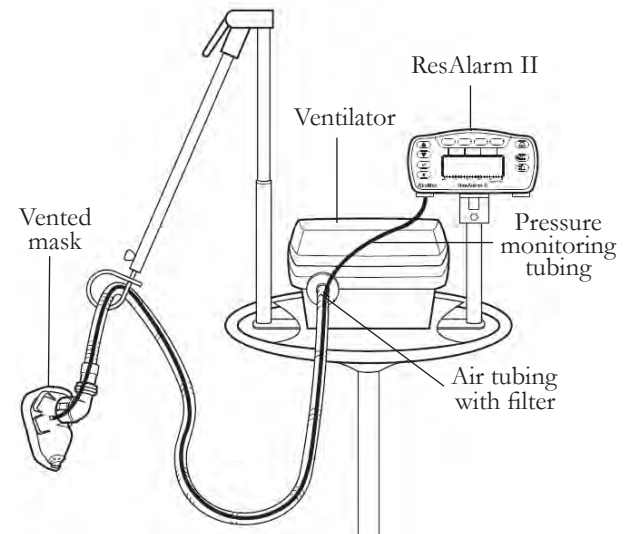

Figure 1: Circuit assembly with VPAP ventilator and vented mask
- 2 Attach the pressure monitoring tube with male luer lock fitting to the back of RESALARM II or to a suitable pressure monitoring connector for the device used (see figure 1).